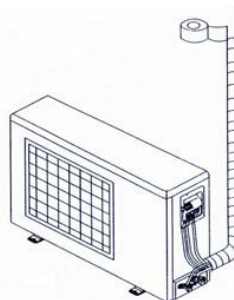

Fig.11.22
- 2). Use thermal insulation tape to wrap the pipes from the bottom of the outdoor unit until the upper end of the pipe where the pipe enters the wall. When wrapping thermal insulation tape, the later circle of tape must cover half of the front circle of tape (Refer to Fig.11.22).